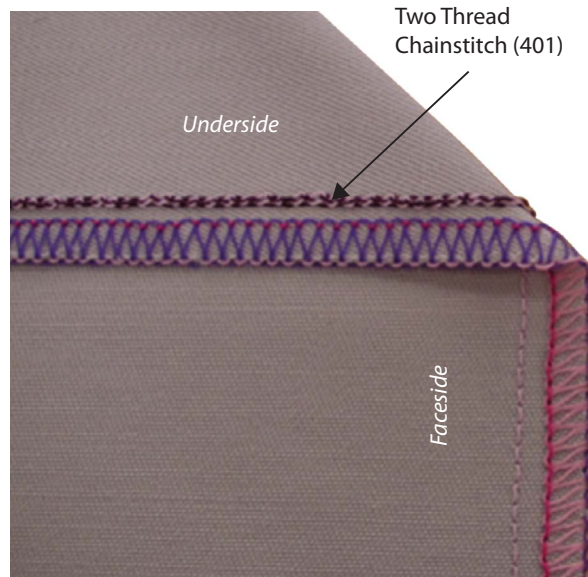

Figure 10 Five Thread Overedge (516).
The **Five Thread Overedge** stitch, frequently known as the Five Thread Safety stitch (516), shown in Figure 10, is used for general seam joining in garments made from **woven fabrics only**.